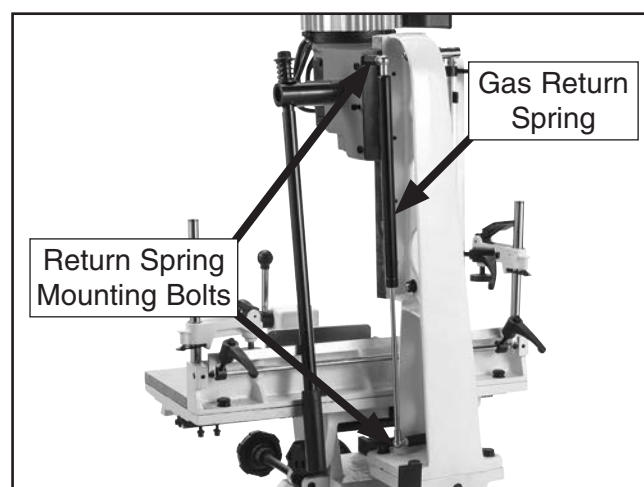

Figure 40. Gas spring mounting bolt and lock nut (top end shown).
The gas return spring (see **Figure 40**) keeps the headstock under pressure so it does not drop when the operating handle is released. If you notice that the gas spring stops working correctly, then it should be replaced before using machine again.
2. Loosen (2) hex nuts securing both ends of gas return spring bolts (see **Figure 40**).